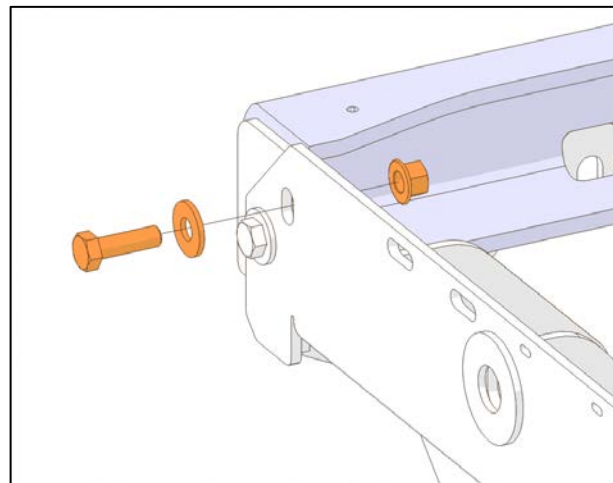

Figure 3: Hardware Removal
4. One at a time, remove nuts, bolts and washers holding the receiver. (Figure 3)